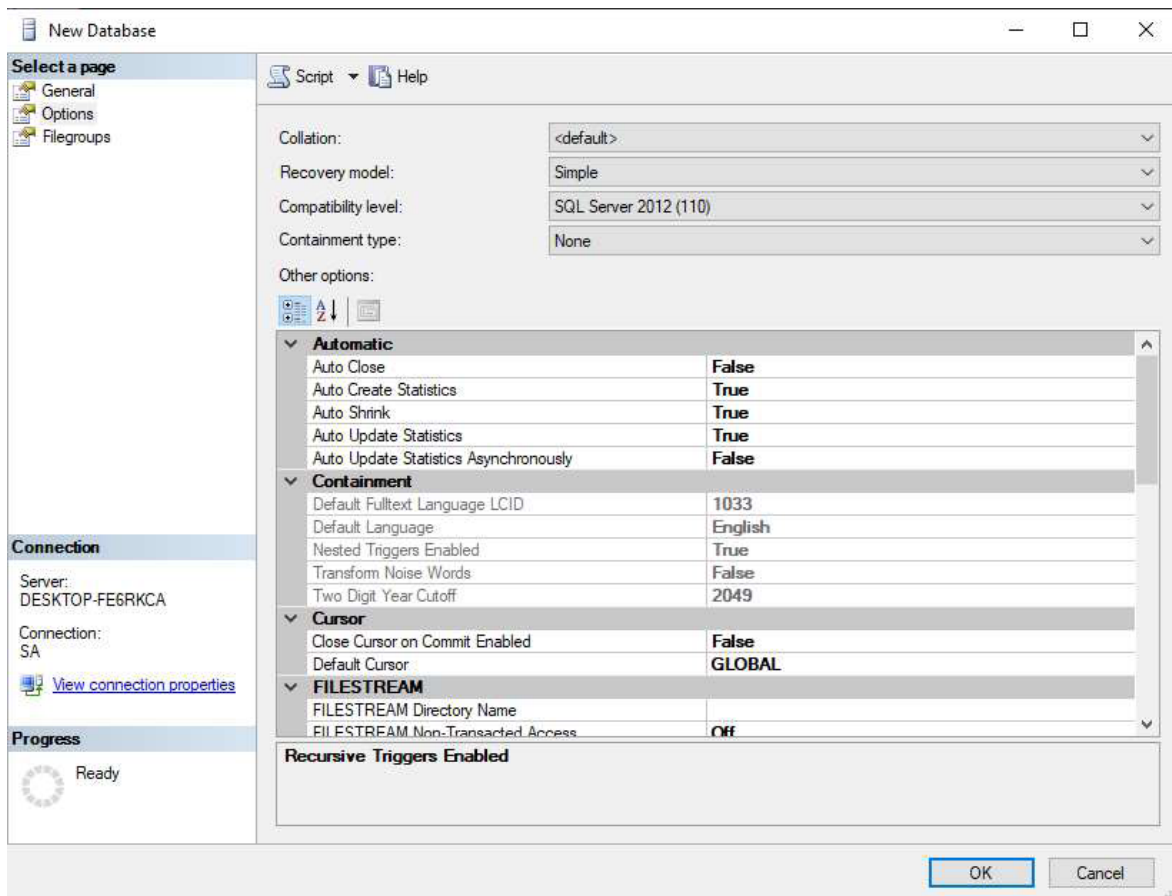

Figure 2
7. Select the Options page from the Select a Page pane. (Figure 2)